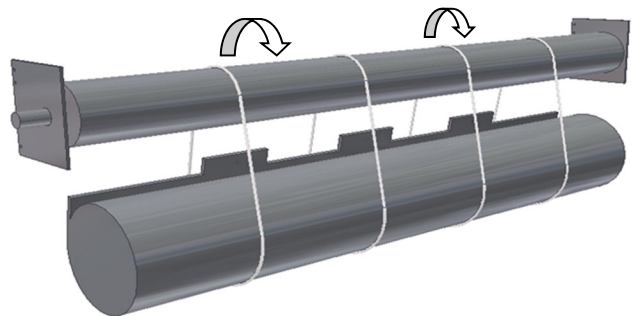

Figure 8.3 - Installing the Curtain
5. Lift the coil until it is just below the shaft. Using appropriately rated straps, sling the coil from the shaft as shown in **Figure 8.3**. Remove the plastic strapping securing the coil at this point.
Note: SA0005 adjustors require the use of an adjustor bar as a stop as well as a 3/8" thick x 2" wide x 30" to 40" long A36 steel bars to apply spring torque. See **Figure 8.3**.